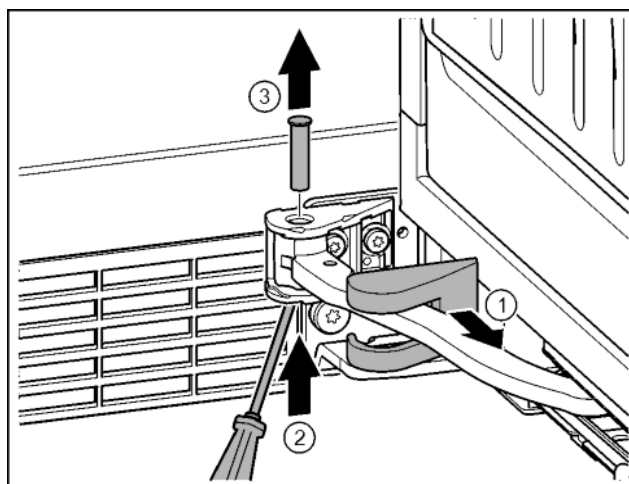

Fig. 14
- ▶ Remove the bearing bracket cover and push it along the hinge. Fig. 14 (1)
- ▶ Lift the bolt with a finger or screwdriver from below. Fig. 14 (2)
- ▶ Insert the screwdriver under the bolt head and remove. Fig. 14 (3)